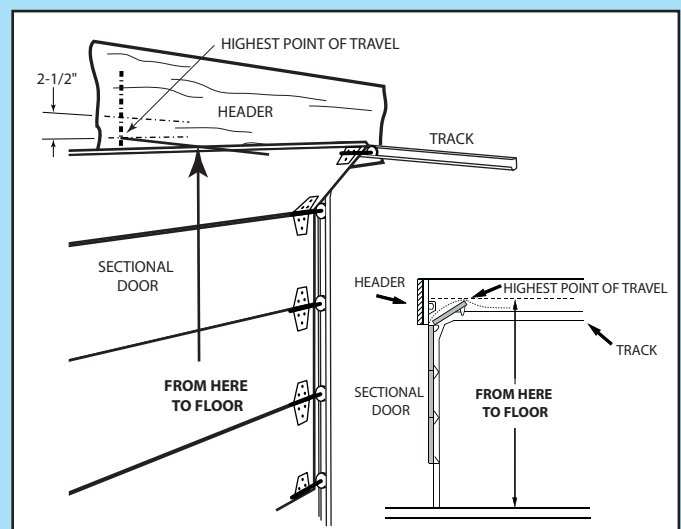

FIG. 2-2 Finding highest point of travel.
- Raise garage door until **top edge** of door reaches its maximum height (**Fig. 2-2**).
- Measure height from top edge of door to floor (**Fig. 2-2**).